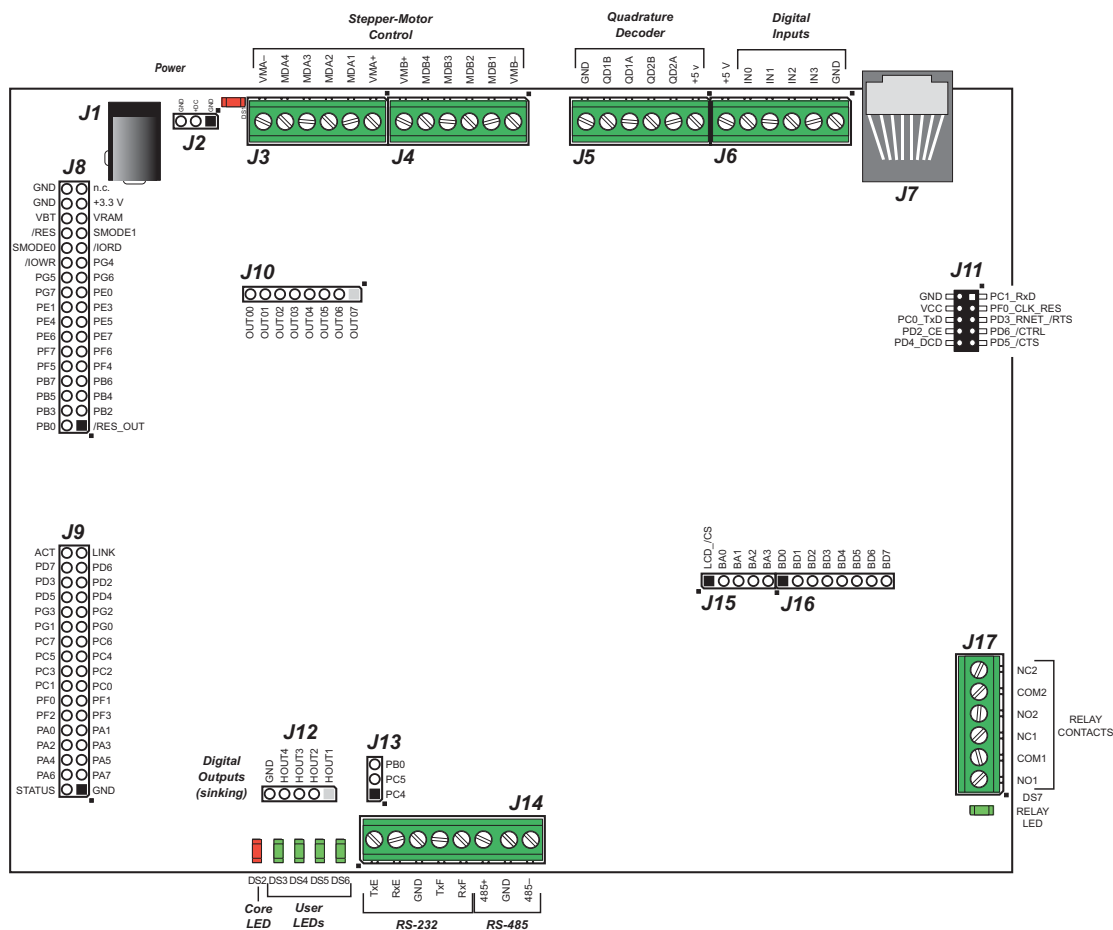

Figure B-4. Prototyping Board Pinout
- **Module Extension Headers**—The complete pin set of the RCM3365/RCM3375 module is duplicated at headers J8 and J9. Developers can solder wires directly into the appropriate holes, or, for more flexible development, 2×17 header strips with a 0.1" pitch can be soldered into place. See Figure B-4 for the header pinouts.
- **Digital I/O**—Four digital inputs are available on screw-terminal header J6. See Figure B-4 for the header pinouts.
- **Quadrature Decoder**—Four quadrature decoder inputs (PF0–PF3) from the Rabbit 3000 chip are available on screw-terminal header J5. See Figure B-4 for the header pinouts.
- **H-Bridge Motor Driver**—Two pairs of H-bridge motor drivers are supported using screw-terminal headers J3 and J4 on the Prototyping Board for stepper-motor control. See Figure B-4 for the header pinouts.
The Prototyping Board pinouts are shown in Figure B-4.